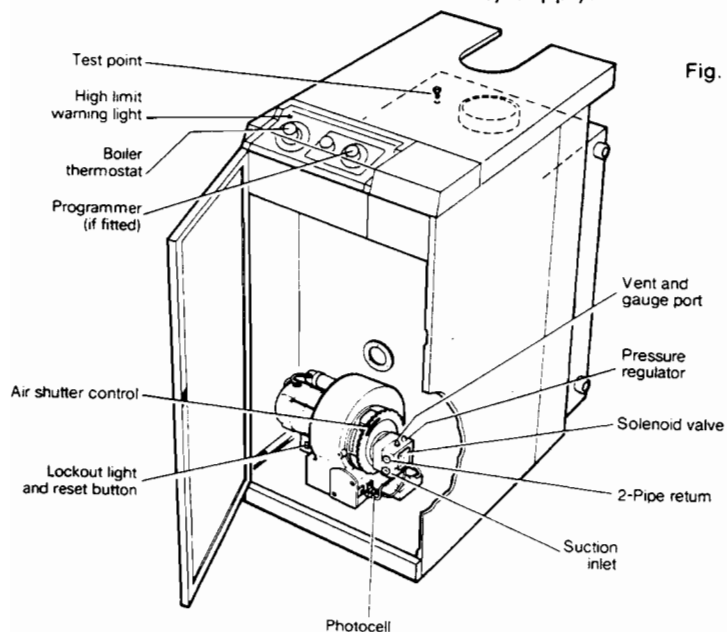

Fig. 1
1. Check functioning of boiler. See Fig. 1.